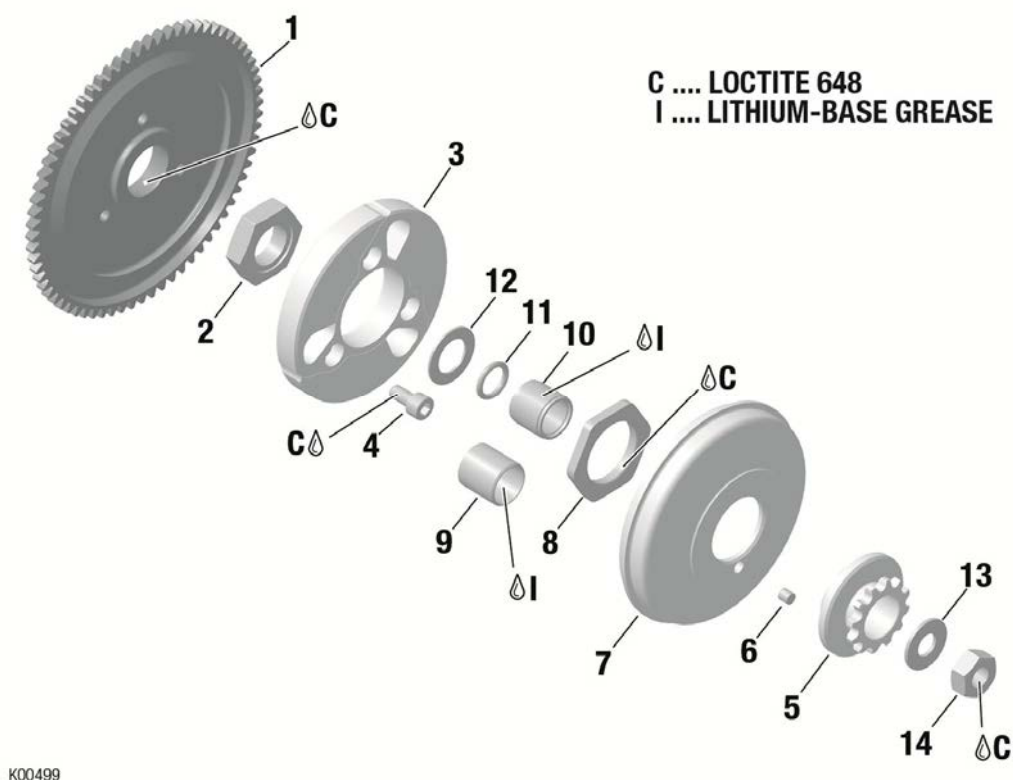

Fig. 3
- ➔ Remove hex. nut (pos. 14) and thrust washer (pos.13). See Fig. 3.
- ➔ Remove clutch drum (pos.7) with fitted chain sprocket.
- ➔ Clear thread of crankshaft and hex. nut (pos.14) from remains of bonding agent and degrease.